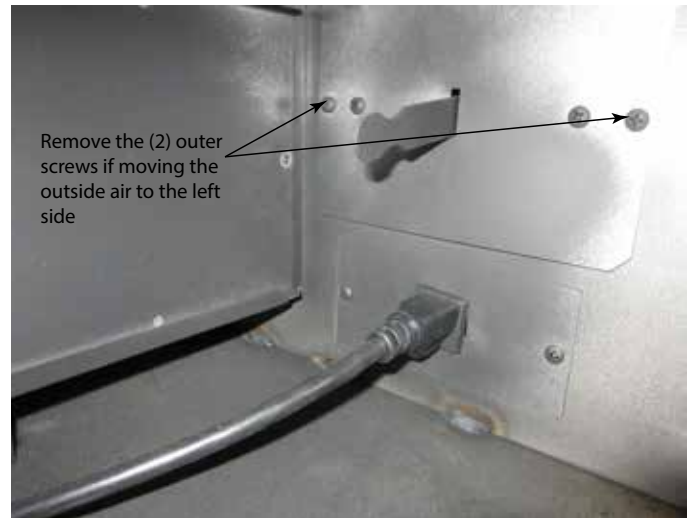

Figure 3.15 Outside air handle shown on right side
4. Remove the two (2) outer screws (Figure 3.15) to allow the outside air box to be removed.